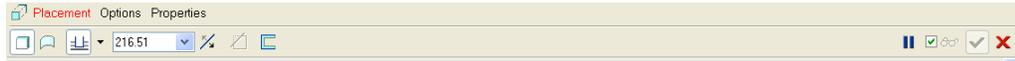
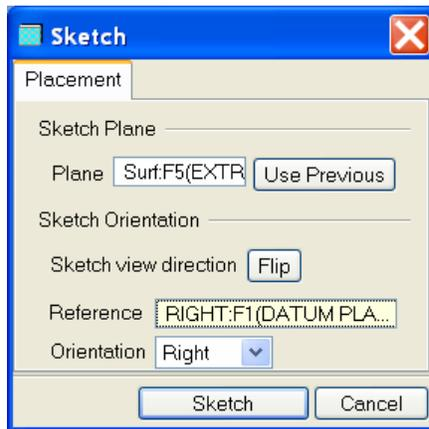

Figure 1.2 The Dashboard
Figure 1.9 Sketch dialog
called dashboard appear as shown in Figure 1.2.
- INSERT → EXTRUDE from the menu. The dashboard appears as shown in Figure 1.2.
- Click on the placement on the extrude dashboard (Figure 1.2) and select define. The sketch dialog window appears as shown in Figure 1.9. Choose top surface of the block as sketch plane and accept the default on the sketch dialog window and